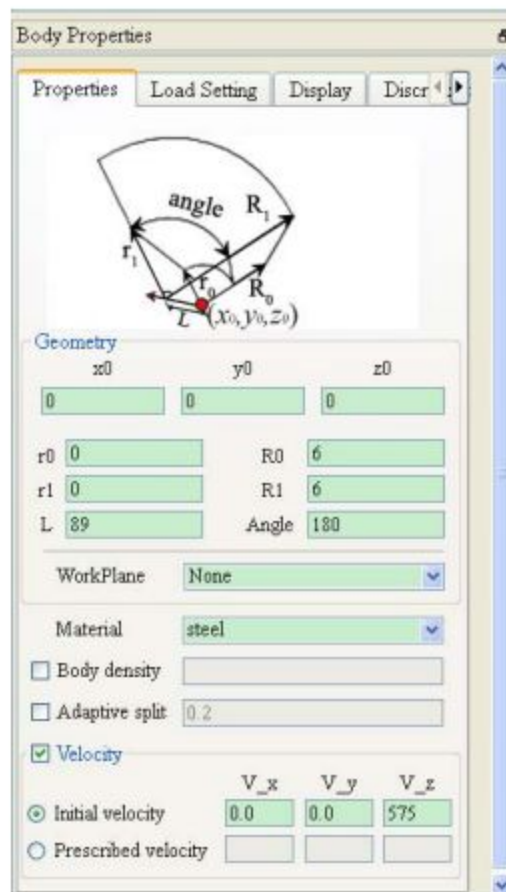

图 5.9: Properties 属性页设置
b. Click Models-> Create Cylinder, or right click PreDataSet to select New Cylinder and Create a cylinder, as shown in Figure 5.8 (a) and Figure 5.8 (b). After the interface on the left side of the interface shown in Figure 5.9, is divided into three parts. The first part of the Properties property page Used to fill in the geometric information, the second part of the Load Setting property page is used to set the load parameters, the third part of the Display
c. fill in the Properties page attribute value, as shown in Figure 5.9 below. in the size box to fill out the geometric information, the specific meaning of the manual;
d. in the Velocity box to specify the initial speed of the object, this time the target body in the top of the body, so as shown in Figure 5.9;